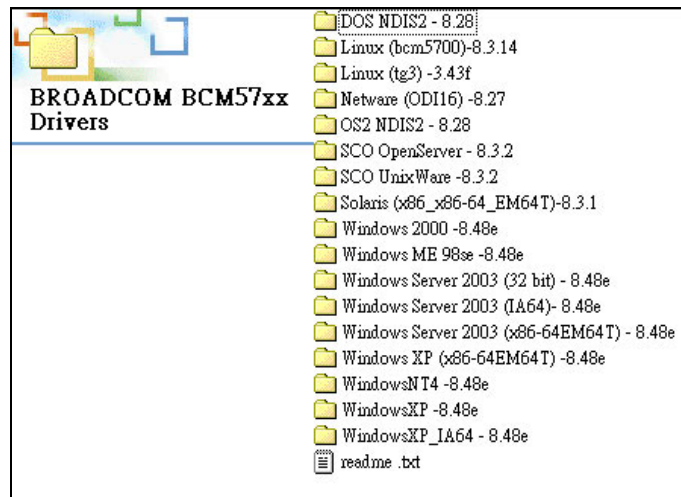

Figure 7-22: Location Browsing Window
Step 8: Select the proper OS folder under the “X:\3-LAN\BROADCOM BCM57xx Drivers” directory (**Figure 7-22**) in the location browsing window, where “X:\” is the system CD drive.